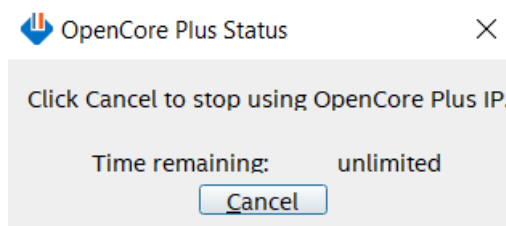

Figure 3-4 OpenCore Plus Status
- 7) When configuration is completed, Quartus will show popup message of OpenCore Plus as shown in Figure 3-4. Please do not press cancel button, because NiosII in tCAMIP will stop running.